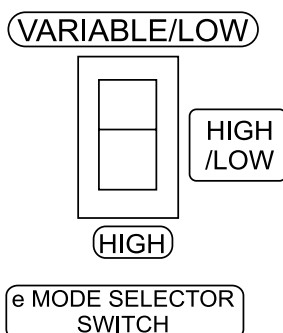

Figure 31. E-Mode Selector Switch (CC Mode)
3. Place e-Mode selector switch (Figure 31) in the desired position as defined by Table 19. This switch is a 3-position rocker switch.